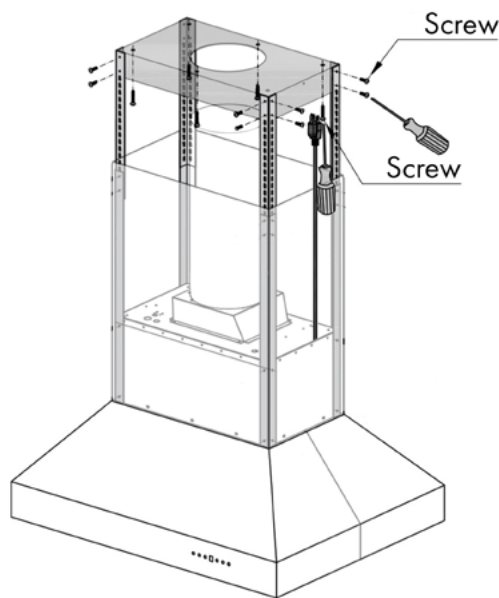

Figure 8
12. With ducting and electrical connections complete, and while still using at least one helper to hold the range hood in place, use 16 screws (H), 4 for each side, to attach the upper angle brackets to the four corners at the top of the chimney bracket. This should fully secure your range hood. *Figure 8*